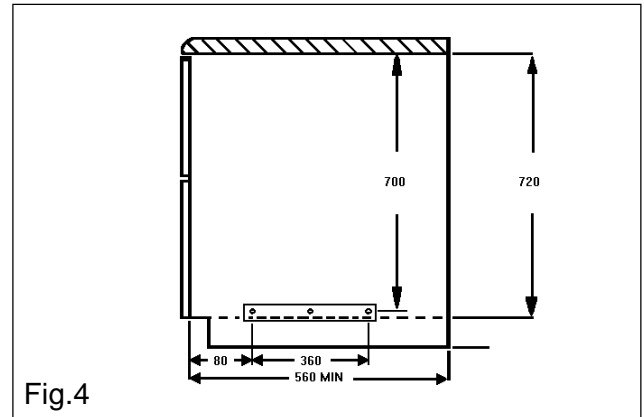
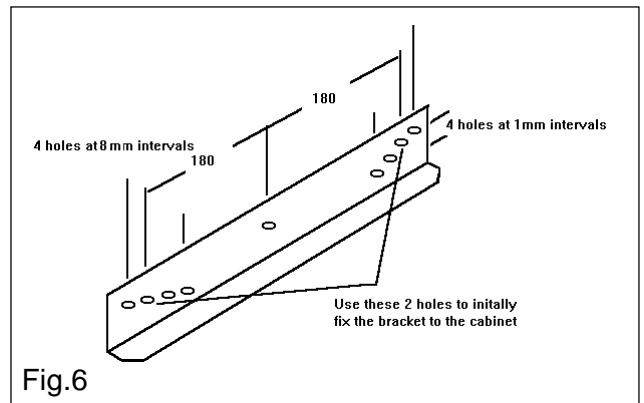

Fig.4
Fig.6
- Make sure the cabinet is the correct size for the appliance to be fitted (Ref. Fig. 4).
- Drill two pilot screw holes into the sides of the adjacent cabinets, in the positions indicated by Fig. 4.
- Fit the appliance mounting brackets using the two holes indicated in Fig. 6 to the adjacent cabinets (Ref. Fig.4 & 7)